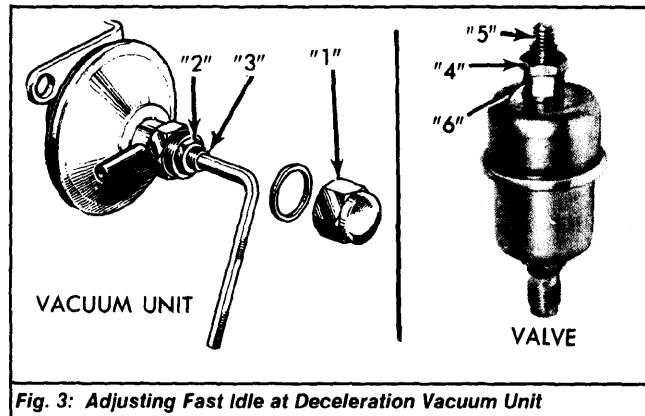

Fig. 3: Adjusting Fast Idle at Deceleration Vacuum Unit
2) Remove domed nut (No. 1) and loosen lock nut (No. 2). See Fig. 3. Engine speed should be 1400-1450 RPM. If engine speed is not correct, adjust screw (No. 3) to correct specification using a 3 mm Allen wrench.
3) Remove domed nut (No. 1). See Fig. 3. Loosen lock nut (No. 2) and start engine. Engine speed should be 1500-1550 RPM. If engine speed is not correct, adjust screw (No. 3) to correct specification using a 3 mm Allen wrench.